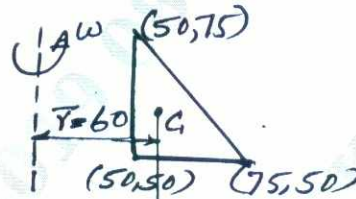

Fig.Q9(b)
b. For the element of an axisymmetric body rotating with a constant angular velocity  $\omega = 1000$  rev/min as shown in Fig.Q9(b). Determine the body force vector. Include the weight of the material,  $\rho = 7850 \text{ kg/m}^3$ . (04 Marks)